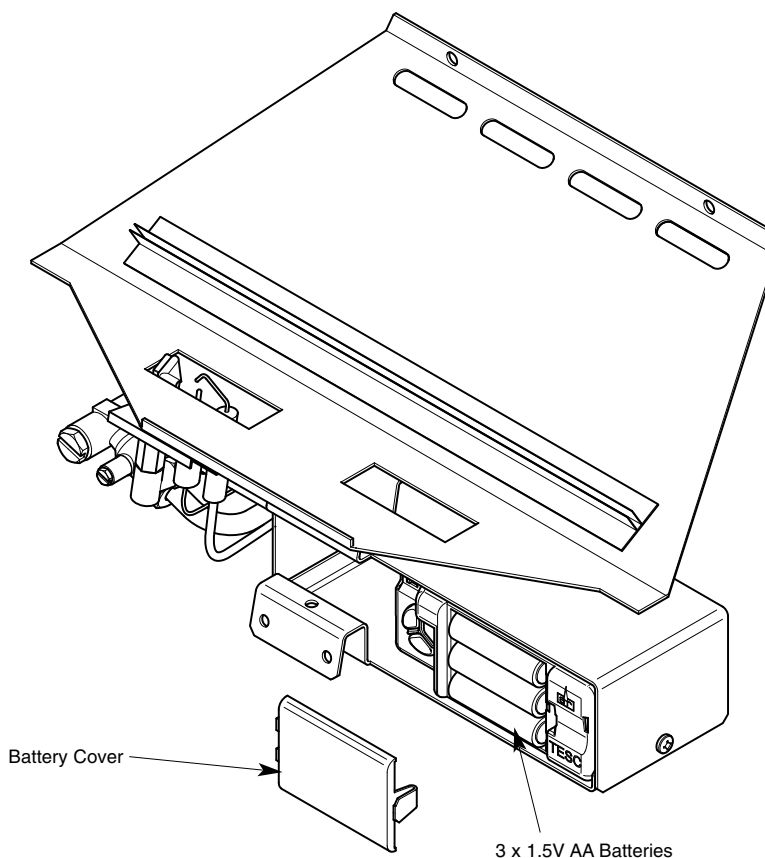

Fig. 13
4. **Changing the batteries** - When the batteries are becoming discharged, unclip the cover and replace the batteries with good quality alkaline or lithium - 3 x 1.5V AA (Fig. 13).